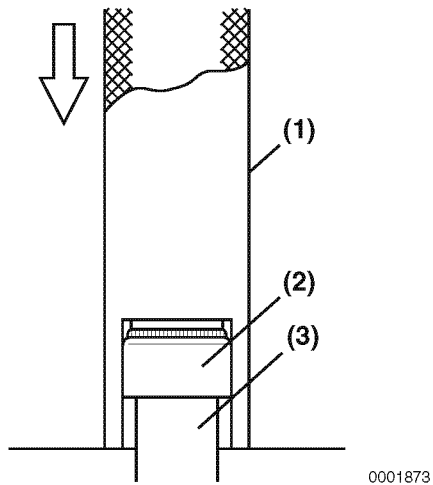

Figure 6-67
Exhaust valve and intake valve stem seals are different. They can be distinguished based on the paint marks on the outer side of the seal or the color of the seal spring (Figure 6-67, (4)). When installing each stem seal, take care to correctly position it.
1. Oil the lip of the valve stem seal (Figure 6-67, (2)). Using the valve stem seal installation tool (Figure 6-67, (1)), install a new valve stem seal on each of the valve guides (Figure 6-67, (3)).